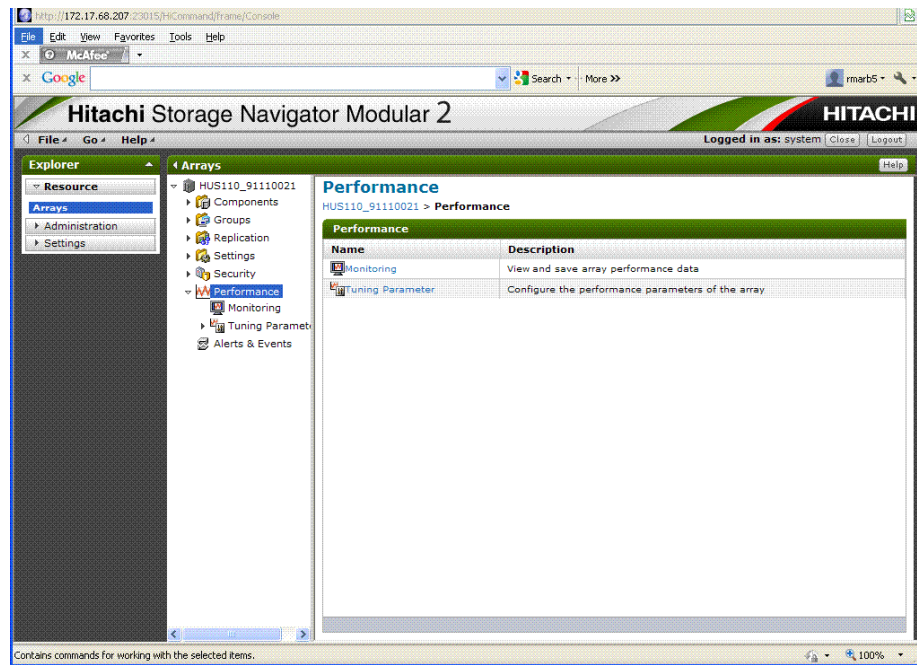

Figure 8-11: Performance window
2. In the Navigation Tree, click **Performance**. HSNM2 displays the Performance window as shown in Figure 8-11.